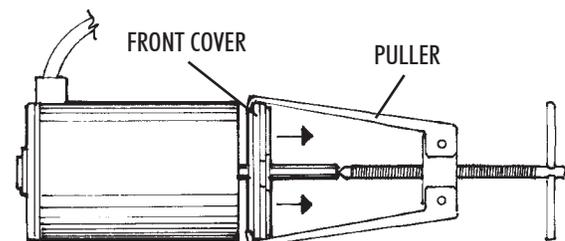

FIGURE 1—Using a bearing puller to remove the motor front cover and bearing
3. Hook a wheel puller around the front cover and push against the shaft to remove the end cap and bearing from the shaft. **NOTE:** before removing the bearing, make sure the shaft is free from burrs so the bearing will come off easily (See Figure 1).